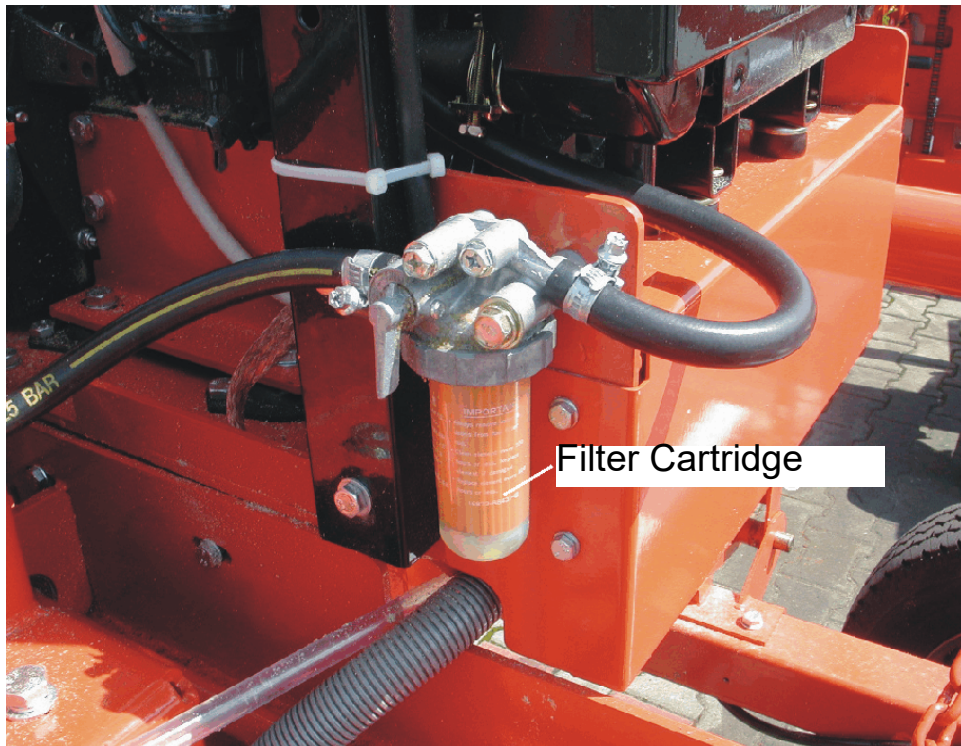

FIG. 3-2
▶ **1500** See **Figure 3-2**. Replace the primary fuel filter cartridge every 400 hours of operation. After replacing the filter cartridge, loosen the air bleed screw and operate the fuel pump bail until fuel begins to flow from the valve and is free of air bubbles. Tighten the bleed screw. Inspect the water separator bowl periodically and drain the bowl as required by turning the drain cap counterclockwise as viewed from the bottom.